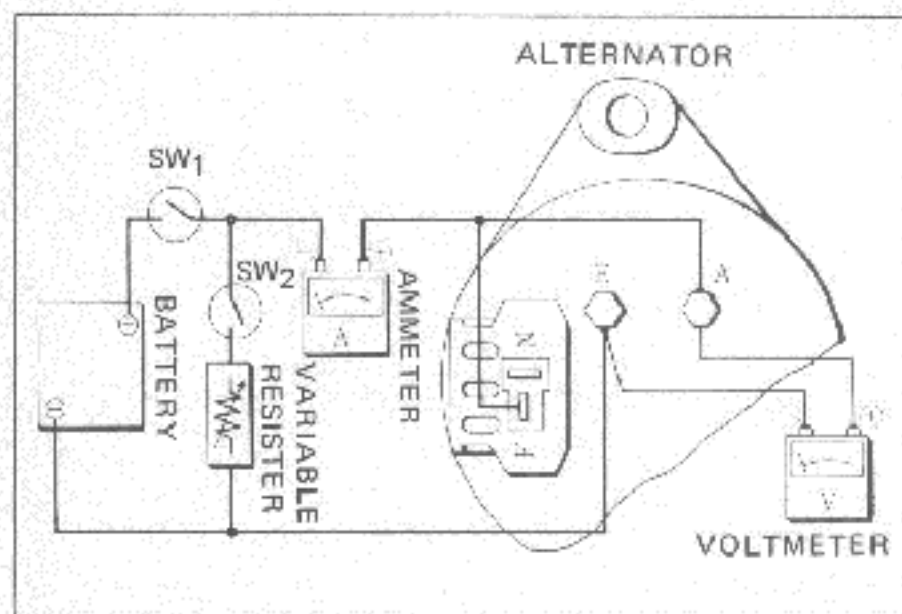

Fig. EE-48 Circuit diagram for measurement of output (II)
1. Connect a variable resistor, battery, ammeter, and voltmeter as shown in Figure EE-48.